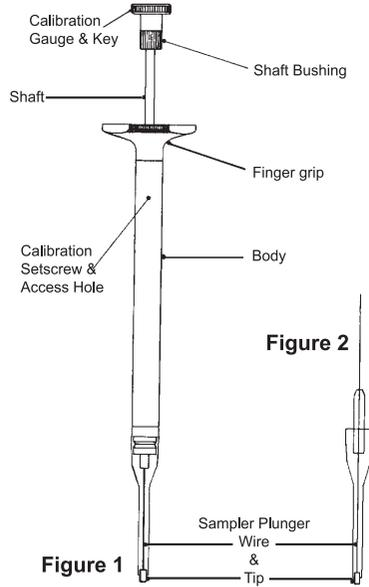

Figure 1
1. Unscrew the calibration gauge and key (see figure 1). Rotate the shaft until the calibration setscrew appears beneath the access hole in the side of the sampler body. Use the calibration key to loosen the setscrew.